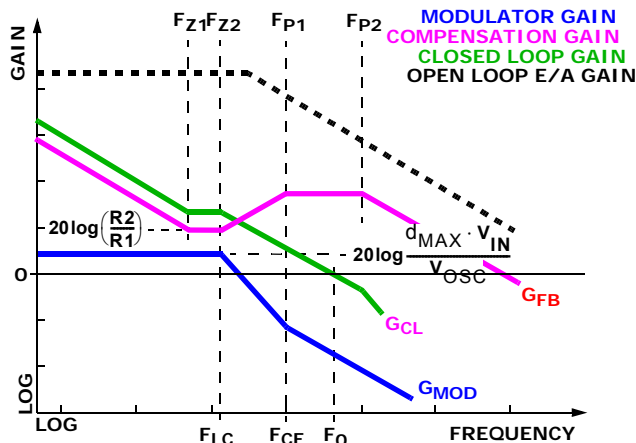

FIGURE 25. ASYMPTOTIC BODE PLOT OF CONVERTER GAIN
Figure 25 shows an asymptotic plot of the DC/DC converter's gain vs frequency. The actual Modulator Gain has a high gain peak dependent on the quality factor (Q) of the output filter, which is not shown. Using the previously mentioned guidelines should yield a compensation gain similar to the curve plotted. The open loop amplifier gain bounds the compensation gain. Check the compensation gain at F_{P2} against the capabilities of the error amplifier. The closed loop gain, G_{CL} , is constructed on the log-log graph of Figure 25 by adding the modulator gain, G_{MOD} (in dB), to the feedback compensation gain, G_{FB} (in dB). This is equivalent to multiplying the modulator transfer function and the compensation transfer function and then plotting the resulting gain.